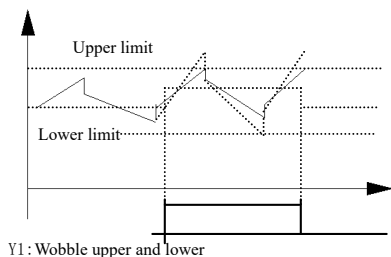

Fig. 7-21 Wobble amplitude limit
**19: Frequency inverter overload pre-alarm signal (OL).** The inverter output current exceeds[F19.06]overload pre-alarm detection levels, and time is greater than[F19.07] overload pre-alarm delay time, output the indicator signal.
**20: Frequency inverter low voltage lock-up signal (LU).** When the inverter is running, the DC bus voltage below the limit level, output indicator signal.
**28: Wobble upper and lower limit.** If the frequency fluctuation range calculated by center frequency exceeds the upper limit [F01.11] or below lower limit [F01.12] after selecting the wobble function, it will output indication signal, as shown in Fig. 7-21.